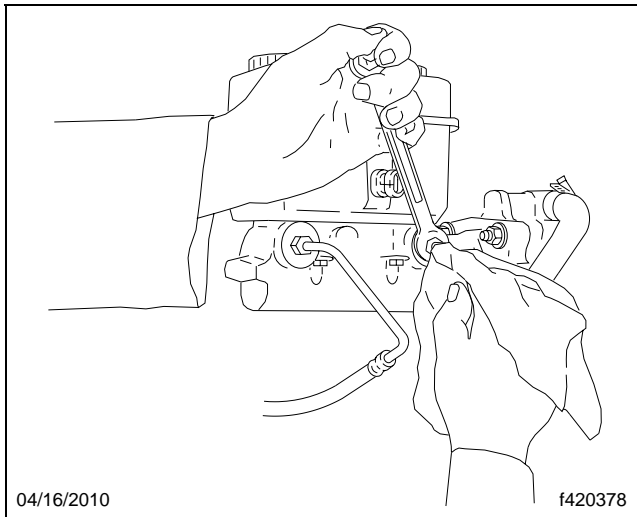

Fig. 15, Rear Outlet Port
- 2.1 Using a wrench (and a rag to absorb leaking brake fluid), loosen the fitting at the rear outlet port on the master cylinder. See **Fig. 15**. Loosen the fitting about one turn.